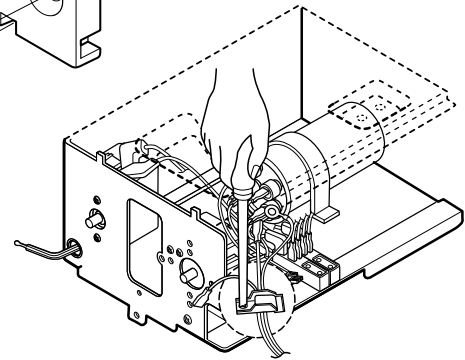

Figure 12
5. Remove a screw which fastens the clip cord. (See Figure 12)